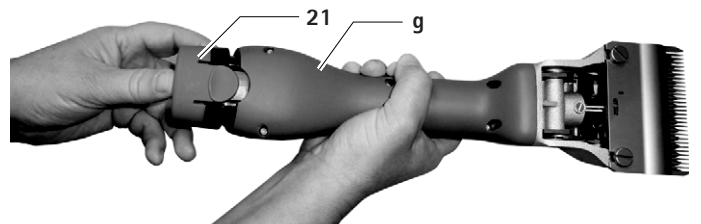

Fig. 2
- ▶ Remove the lithium ion battery 21, and push the charged and/or uncharged replacement lithium ion battery GT641 (31NR19/66-1) into the battery-operated clipping machine g, see Fig. 2.